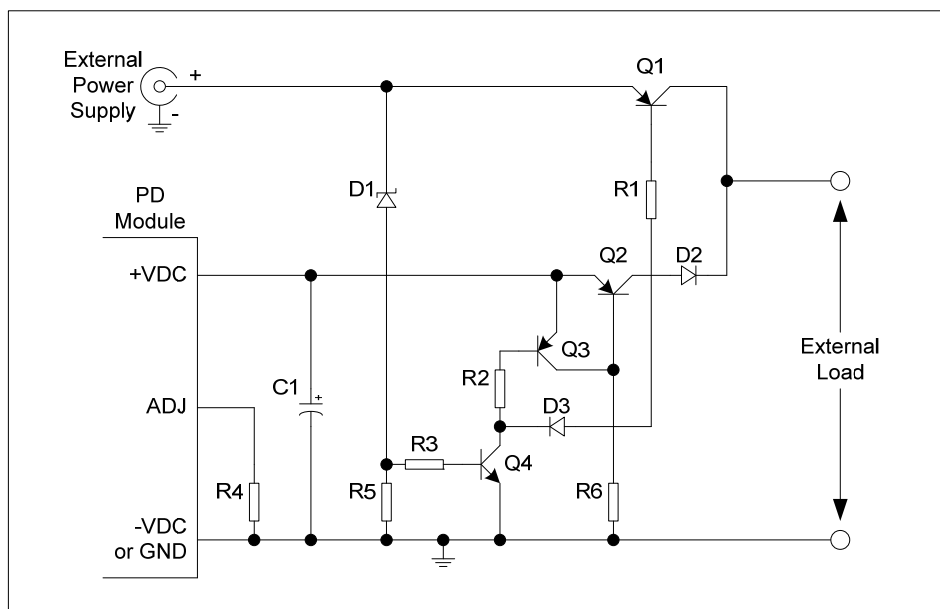

Figure 1: External Supply Gating Circuit
This application note shows how to gate the output of a PoE Powered Device (PD) module and an external power supply; with the external supply having priority (see Figure 1).